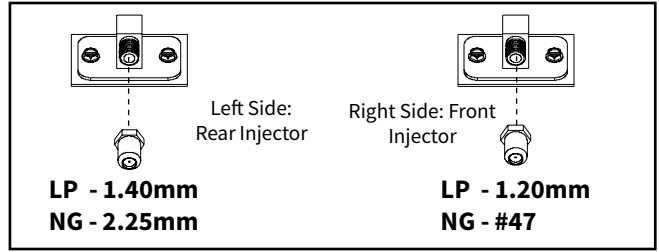

Figure 5.5. Change the burner injector orifices.
**9. CHANGE THE BURNER INJECTORS** See fig. 5.5.